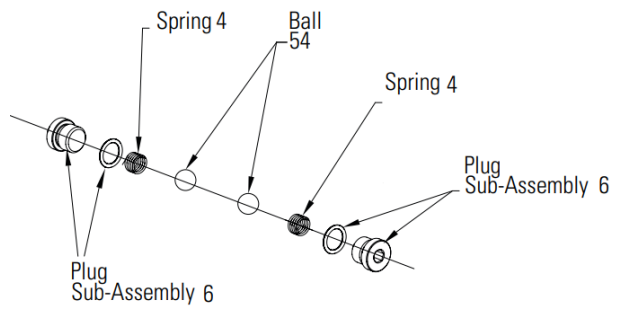

Figure 38 For Open Loop Design
1. Remove ball (Qty 2) as shown Figure 38